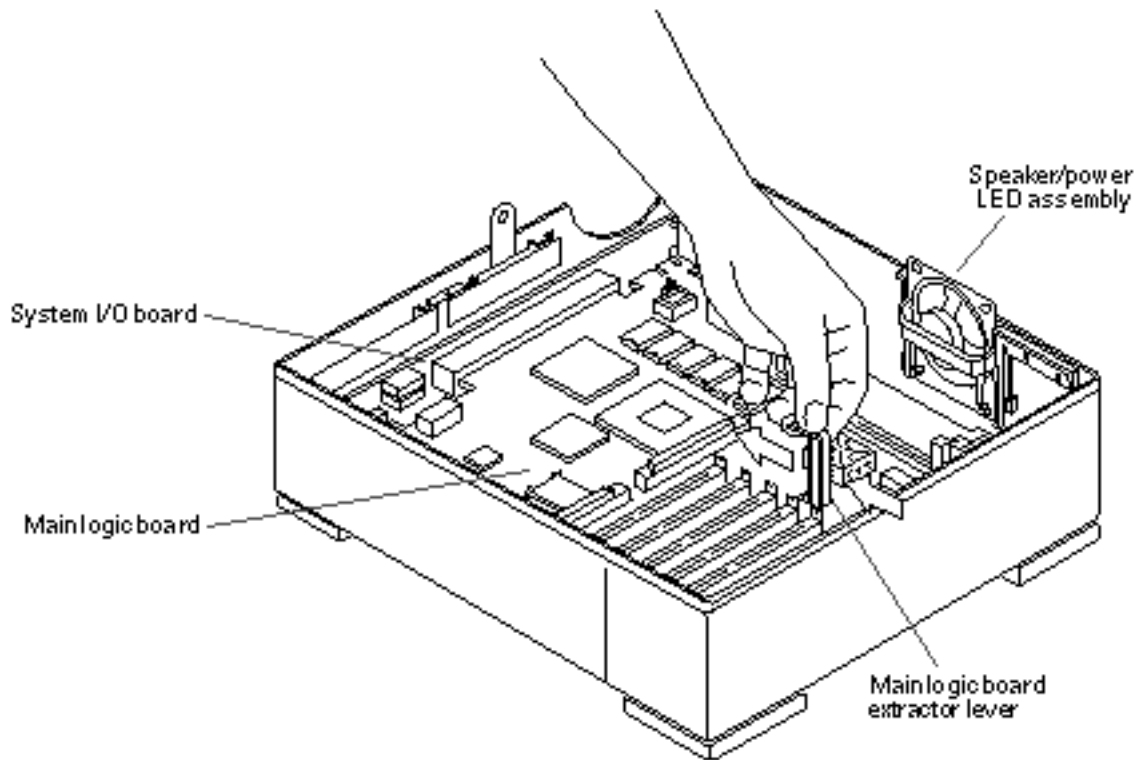

Figure 11-18 Plugging in the Main Logic Board
d. Push the main logic board extractor lever toward the rear of the system unit to plug the main logic board into the system I/O board (see Figure 11-18).